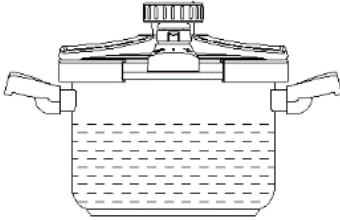

Fig.3
- Less than 2/3 of the cooker height for non-expansive food such as meat, vegetable, etc. (Fig. 3)